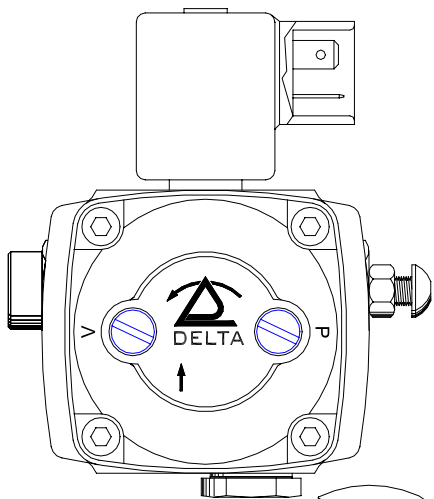

Fig. 1
- Using a 19 mm wrench, remove the 1/4" plug from return port (Fig. 1).
- Insert and screw a 1/4" plug into the return port (Fig. 1).